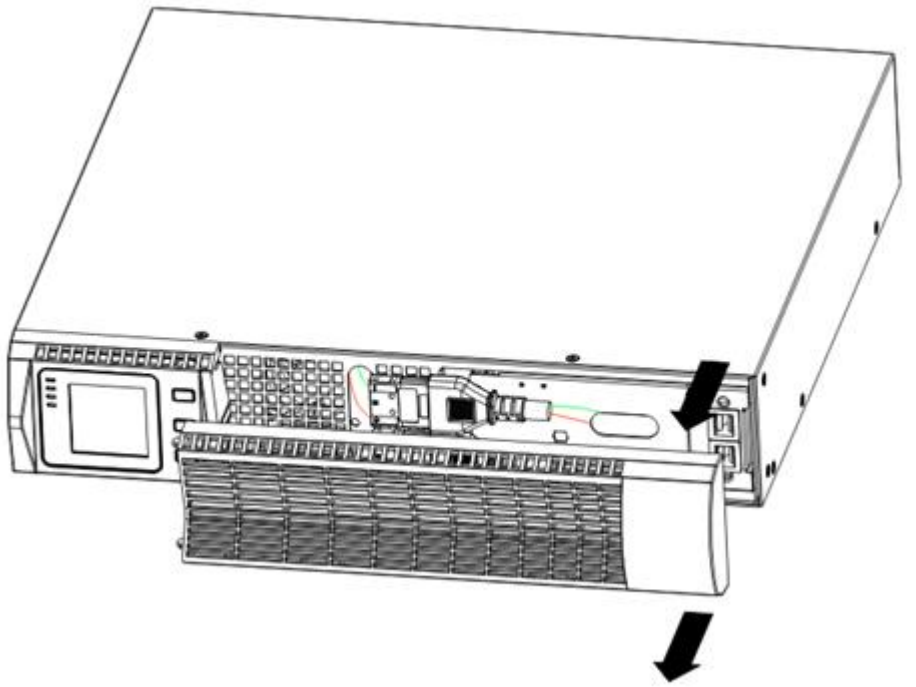

Figure7 Extract UPS front cover
11. Secure the front of the UPS to the rack using one M5×12 pan-head screws and one M5 cage nuts on each side(see Figure 7).Install the bottom screw on each side through the bottom hole of mounting bracket and the bottom hole of the rail.
Hold the cover part without LCD on the right side and extract it(see Fig.7)